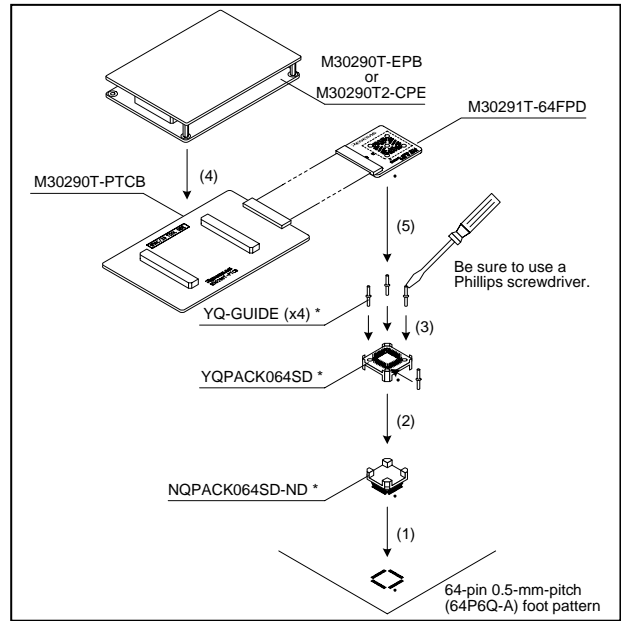

Figure 3 Connection procedure of the M30291T-64FPD
5. Connection Procedure (See Figure 3)